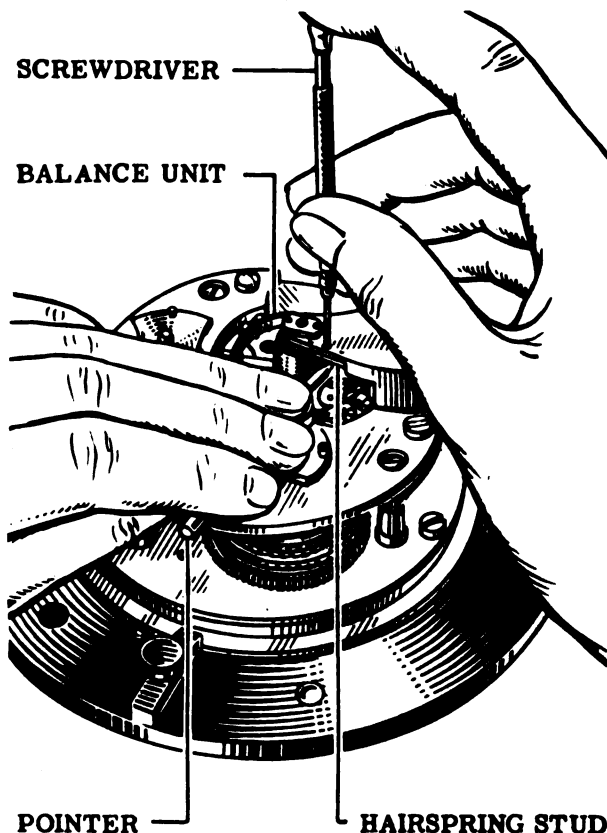

Figure 87
75. Start the hairspring stud screw in its screw hole. Carefully turn the balance unit clockwise until the hairspring stud is in the correct location. Lift the stud into place. Fasten the hairspring stud screw as shown in Fig. 87. Disengage the train blocking screw by backing it up as far as possible and tightening it in this position.